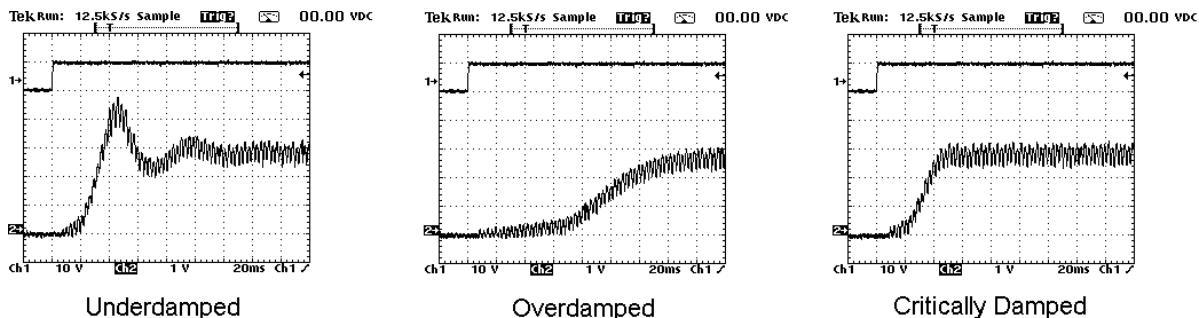

Figure 5
The current loop can be manually tuned by directly applying a stepped reference and monitoring the current feedback. In order to adjust properly, connect an oscilloscope between common and the Armature IFB testpoint on CN11. Using the HMI, temporarily set **Ramp Bypass (305)** to True. The rotor shaft must not rotate during this procedure. Therefore, set **Field Enable (331)** to False to remove voltage from the shunt field. Set the drive to torque mode by setting **Drive Mode (109,110)** to Torque. Run the drive and apply a step change to the external reference and monitor the current feedback. The signal should respond quickly with minimum overshoot. Adjust the **Current Proportional Gain (107)** and **Current Integral Time (108)** parameters to obtain a critically damped waveform as seen in Figure 5. Increasing the proportional gain improves the response but increases the overshoot. Reducing the integral time improves the response but can cause instability if set too low. Return **Ramp Bypass**, **Field Enable**, & **Drive Mode** to their previous settings when complete.